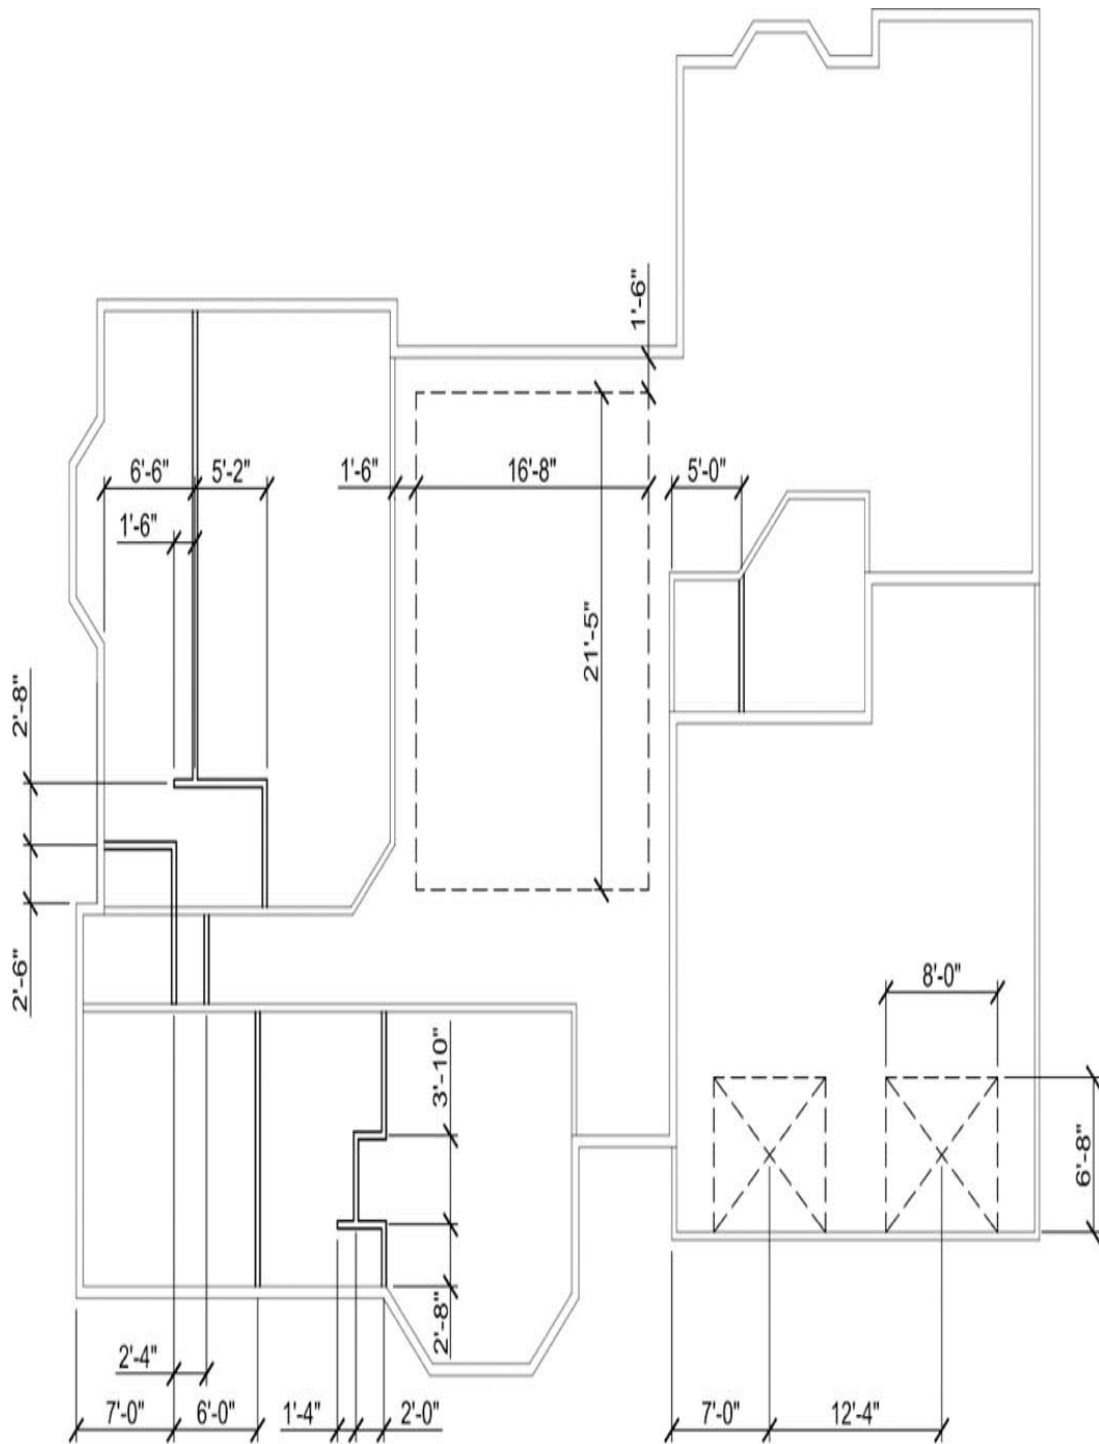

Figure 6-41
5. Draw the geometry shown in Figure 6-41 on the appropriate layer.